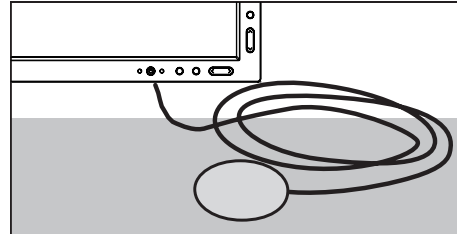

Figure S.2
4. The calibration menu will open and the sensor will begin to initialize. If the DARK-MEASUREMENT message is displayed, place the USB sensor face down on a non-reflective, opaque surface (i.e. desk or a mouse pad) to measure the black level (Figure S.2) and press "SELECT".